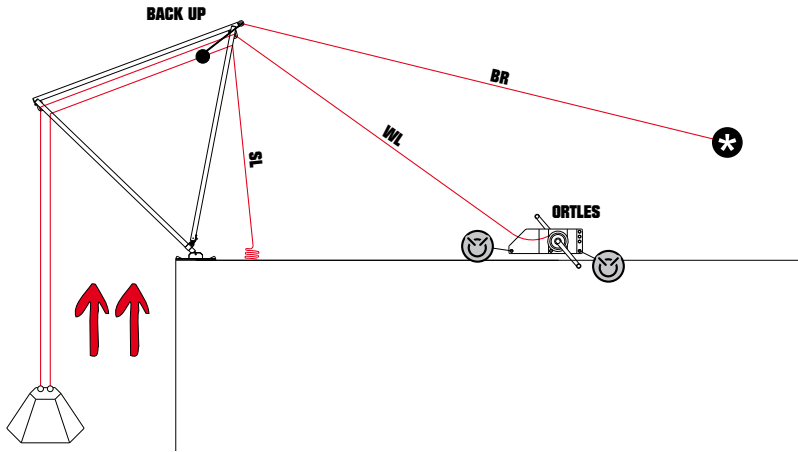

fig. 14
- recovery with a single rope (fig. 13) and double ropes (fig. 14),